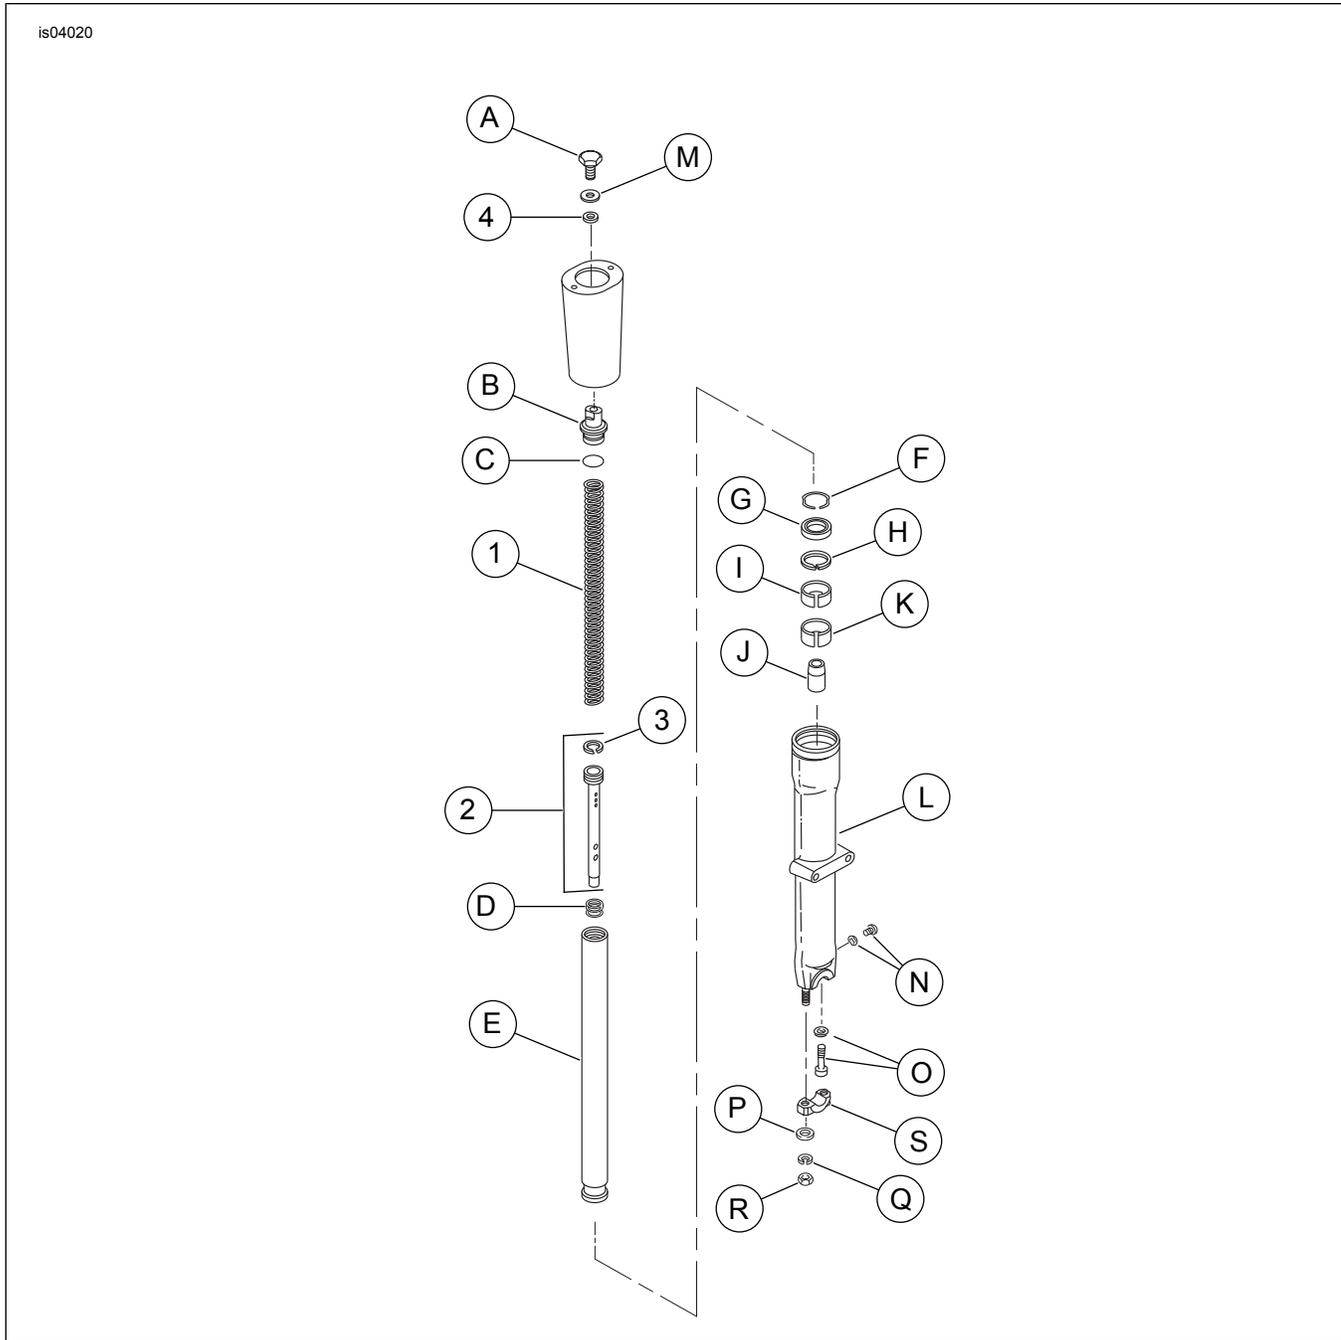

Figure 6. Service Parts: FL Softail Front Lowering Suspension Kit
See Figure 6 and Table 1.
1. See Figure 6. Remove nuts (R), lockwashers (Q), flat washers (P) and axle cap (S) from studs at end of fork slider.
Refer to Figure 6 for Steps 3-17.
Refer to Figure 6 for the following procedure.
- c. See Figure 6. Slide the retaining clip (F) down the fork tube until it contacts the fork oil seal. Install retaining clip in the fork slider groove. Do not expand or stretch retaining clip to install on fork tube or clip may become bent or distorted.